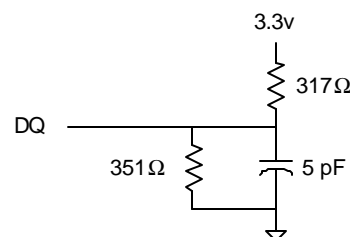

Fig. 2 OUTPUT LOAD EQUIVALENT
- Output loading is specified with  $CL=5pF$  as in Fig. 2.